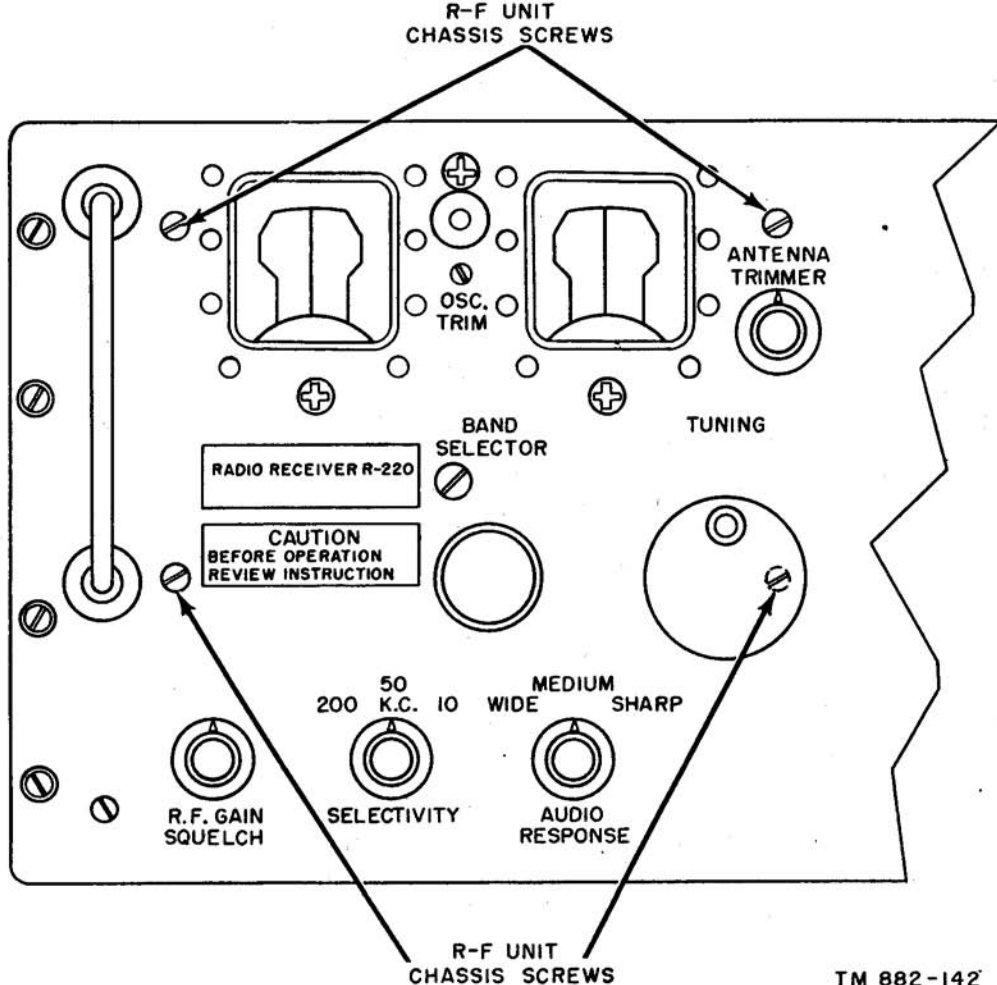

Figure 99. Receiver front panel, showing rf chassis screws.
*e. Removal of Rf Unit (figs. 99 and 100).* Observe the following procedure in removing the rf unit from the receiver:
- (1) Remove the TUNING, BAND SELECTOR, and ANTENNA TRIMMER con-
- controls from the front panel (fig. 99). To remove the BAND SELECTOR control, refer to paragraph 102c.